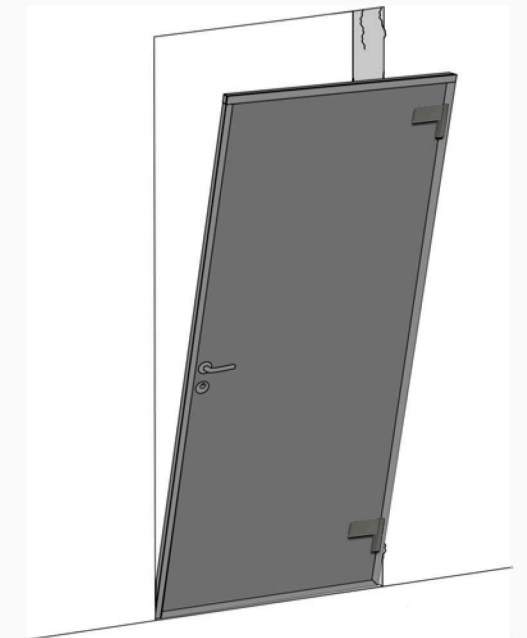

Figure 4
2.4. Dismantle the old door (figure 4).